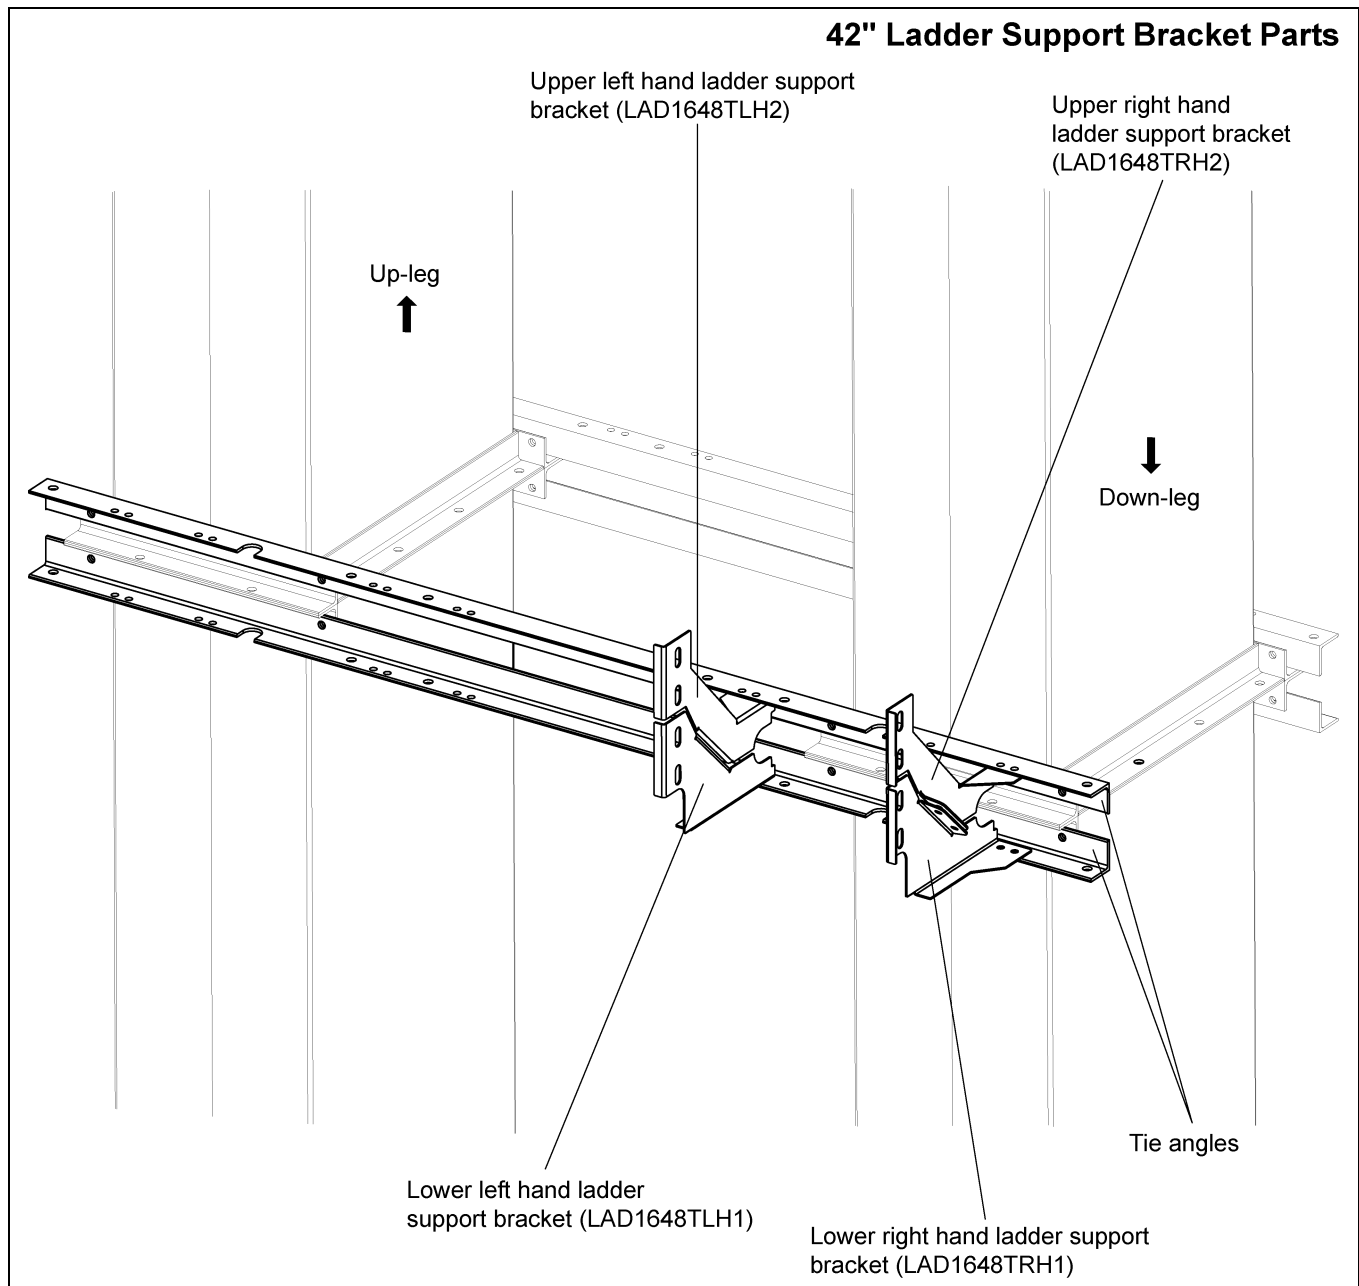
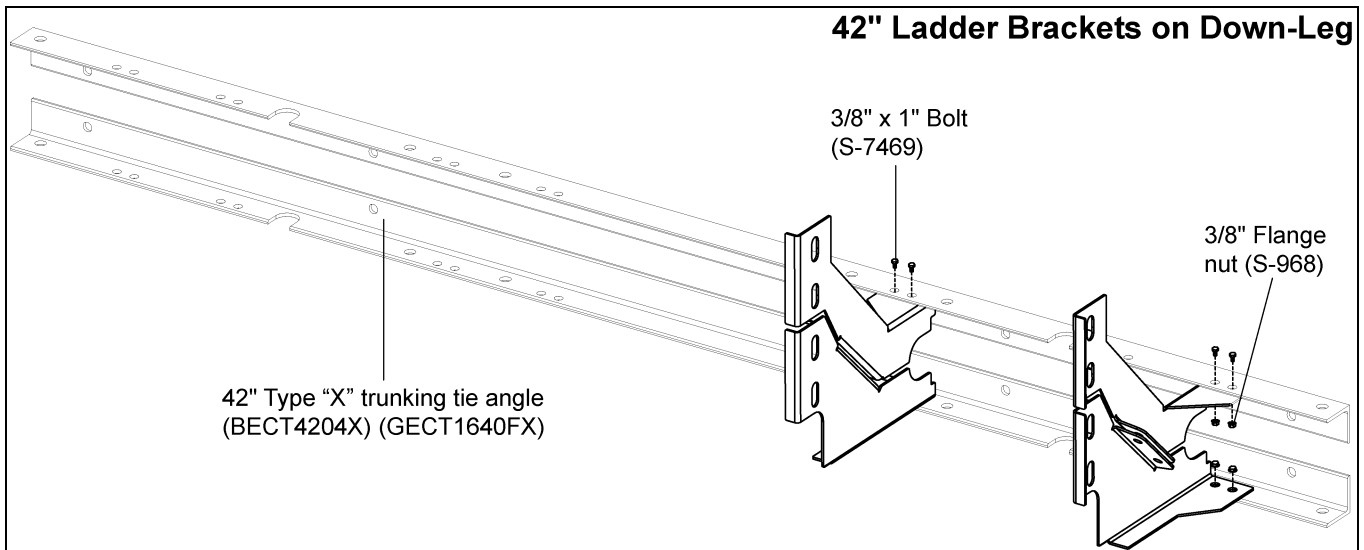
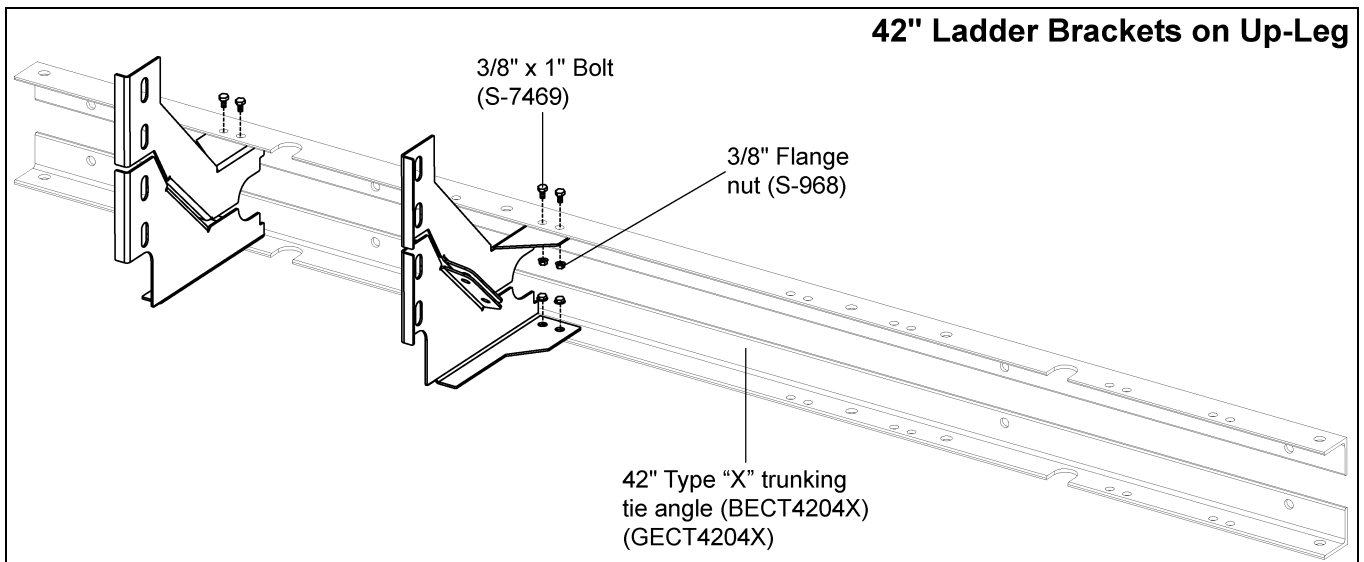

Figure 6N 42" Ladder Support Bracket Parts
Figure 6O 42" Ladder Bracket Location for Down-Leg
Figure 6P 42" Ladder Bracket Location for Up-Leg
3. Fasten flanges of brackets and brackets to tie angles using 3/8" x 1" HHCS bolts (S-7469) and 3/8" flange nuts (S-968). (*See Figure 6N below, Figure 6O and Figure 6P on Page 31.*)